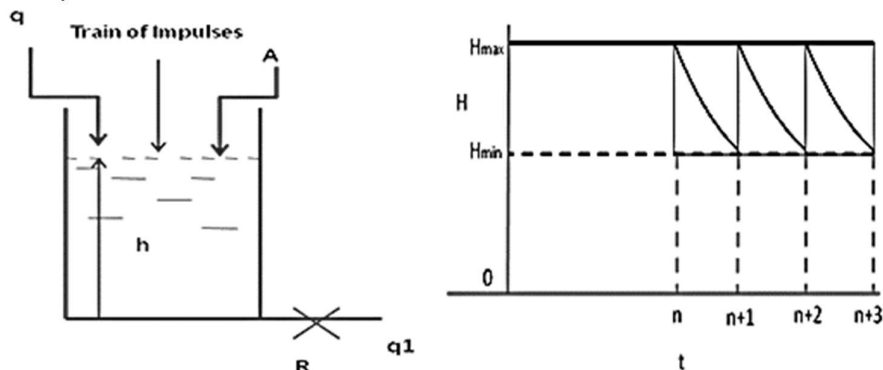

Fig. 1: The liquid level system and periodic output wave train
Q.2(c) The liquid level system as shown in fig.1, is initially at steady state with an inlet flow rate of 1 cfm. At time zero, one ft^3 of water is suddenly added to the tank; at $t=1$, one ft^3 is added and so on. In other words, a train of unit impulses is applied to the tank at intervals of one minute. Ultimately the output wave train becomes periodic as shown in the Fig.1. Determine the maximum and minimum value of this output and determine the level at $t = 0.5, 1$ and 1.5 . Data: Area= 1 ft^2 ; Time constant=1 [6]